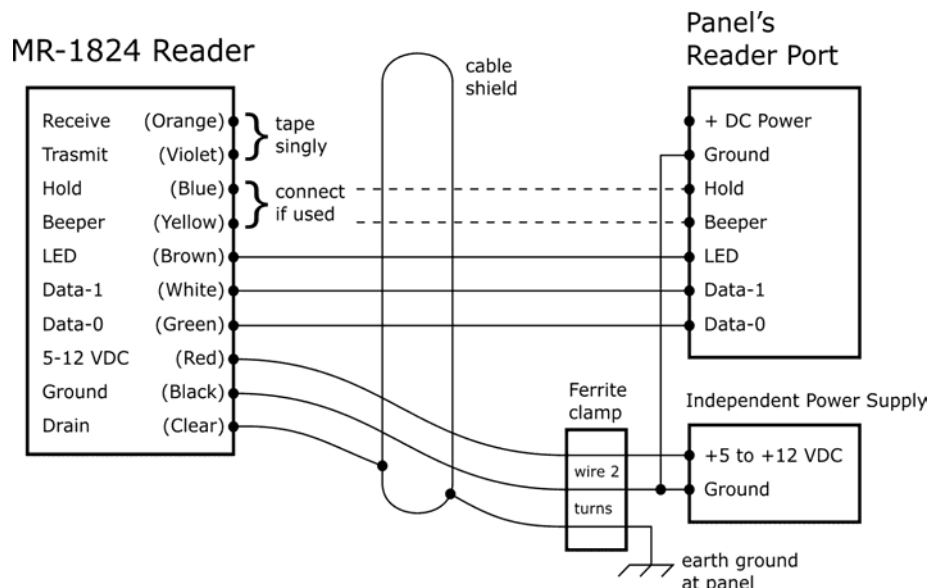

FIGURE 2. Wiring Diagram (Wiegand)
3. Connect the reader's cable to the controller panel as shown in Figure 2. Connect the **yellow** wire only if used for Beeper control by the panel. Connect the **blue** wire only if used for Hold control by the panel. **Do not connect the orange and violet wires to anything. Tape or cap all unused wires singly.**
- 5, 6 or 7 conductors (not twisted pairs), stranded, 22 AWG, color-coded insulation, overall 100% shielded (Number of conductors depends upon use of optional features – Beeper, Hold and LED. See Figure 2.)
5. Press the ferrite clamp around the wires until the latch at one end of the clamp snaps over the ears on the other end of the clamp. (See Figure 2.)